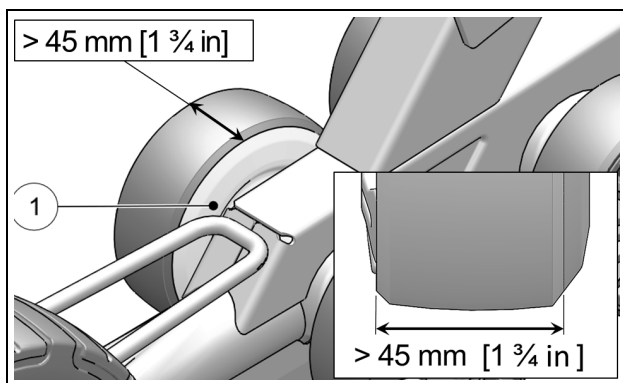

Figure 34
Verify wear on wheels especially on the interior guidance strip. The wheel must be replaced if the inner surface (1) is perforated or when the wheel's rolling band narrows to a width of less than 45 mm. A wheel that is excessively worn will not offer enough support to guide the track. Track guides may also wear prematurely. Figure 34.